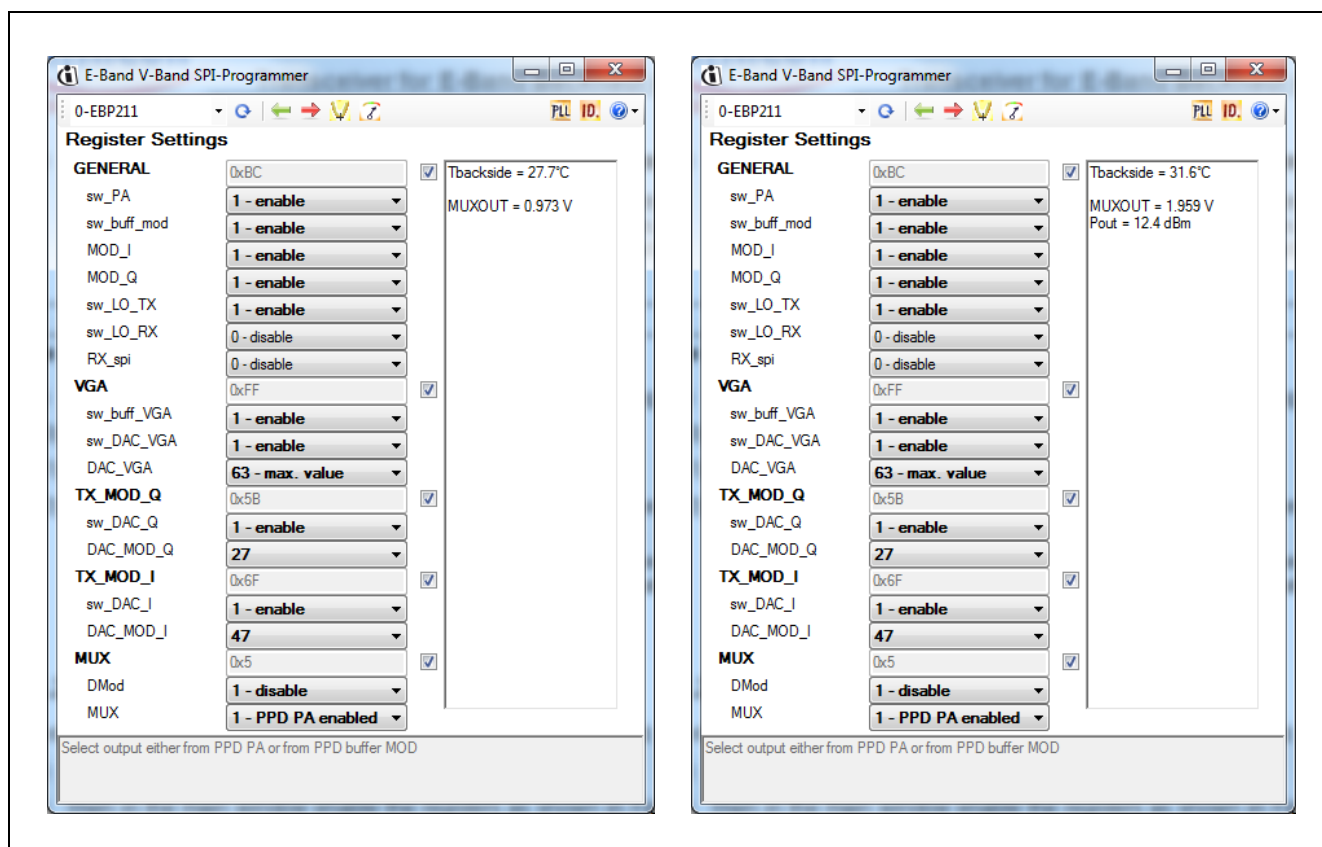

Figure 51 Typical Transmitter Settings for the BGT70
- 8) Before you proceed to this step make sure that there is **no IF signal applied to the TX IF inputs**. Then in the main window press  button. This step will automatically execute the LO leakage calibration and set the right value to the **DAC_MOD_Q** and **DAC_MOD_I** registers. The current consumption in this case will jump to 550mA. The typical setting for the Transmitter would look like as shown in **Figure 51**. After LO calibration is done, IF can be applied to TX IF inputs of BGT70.